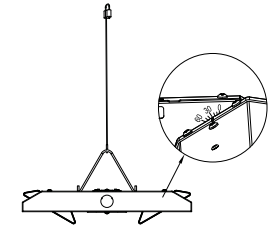

Figure 2
- Step5.The light-emitting modules can be rotatable, and the maximum angle of outward rotation is 135°. (Figure 2)